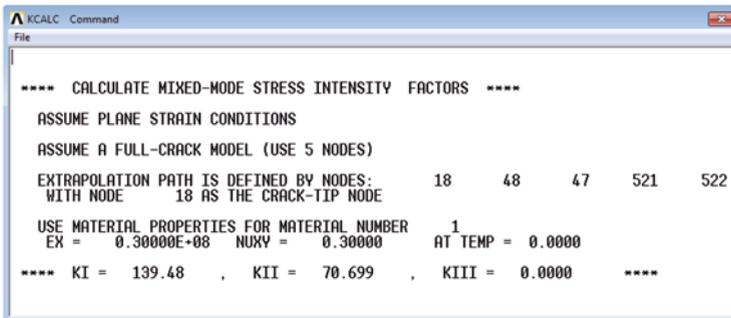

Fig. 8.74 Stress intensity factor results
- Stress intensity factors are reported in a separate window (KI=139.48, KII=70.699), as shown in Fig. 8.74.